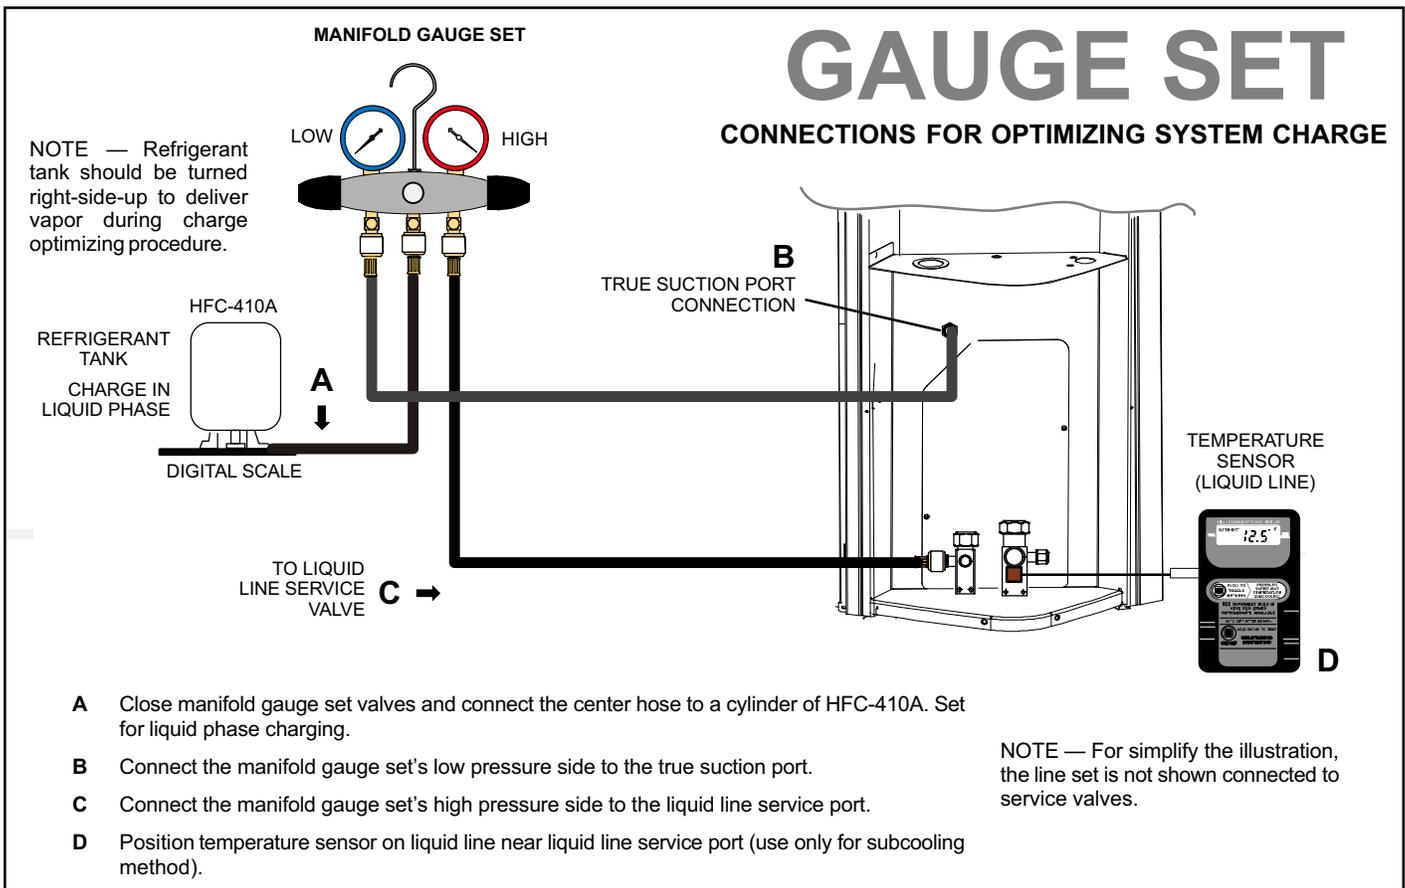

Figure 17. Typical Gauge Set Connections for Initial Weight-in Charge or Optimizing System Charge
3. Verify that the manifold gauge set is connected as illustrated in figure 17. Use a temperature sensor positioned near the liquid line service port as illustrated in figure 17 which will be required later when using the subcooling method for optimizing the system refrigerant charge.
After the evacuation procedure, reconnect the manifold gauge set as illustrated in figure 17.
NOTE - Temperature sensor illustrated in figure 17 is not required for initial system weigh in charging.
1. Close manifold gauge set valves and connect the gauge set as exemplified in figure 17.